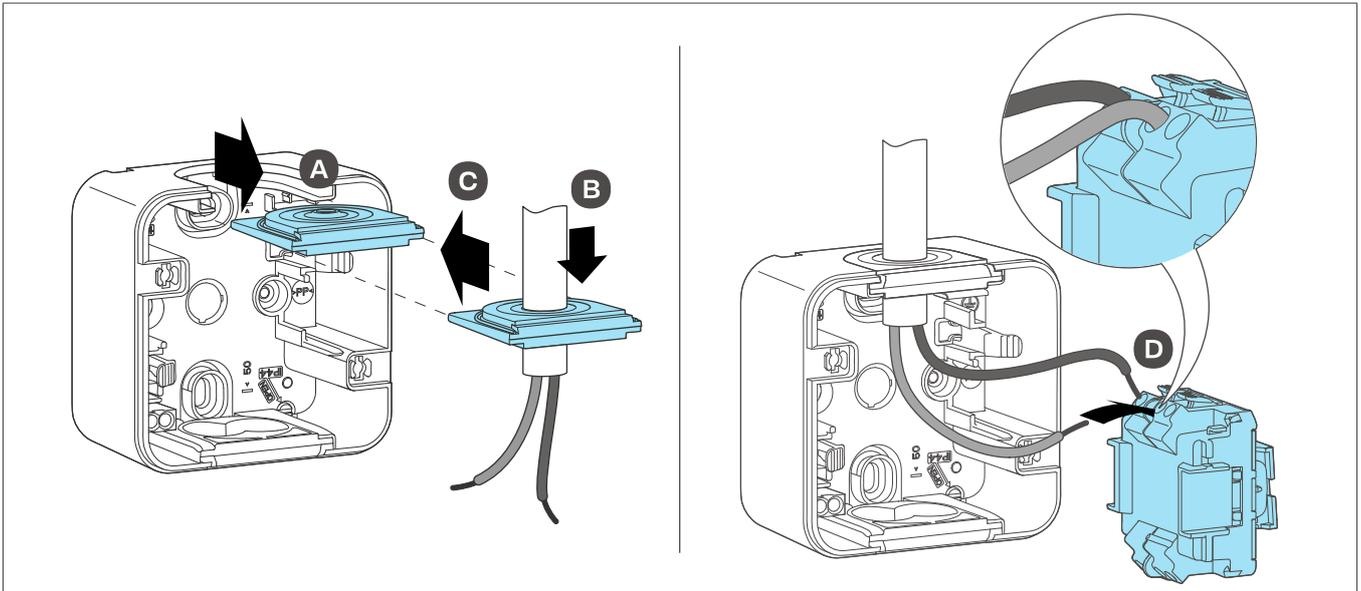

Fig. 9: Cable entry (left) / Wire insert (right)
- 1 Remove the cable entry (6) top/bottom from the housing bottom part depending on the laid lead (A) (Fig. 9, left).
- 2 Push the lead through the cable entry (B) and insert the cable entry into the housing bottom part again (C) (Fig. 9, left).
- 3 Wire the phase and load line with insert (4) (D) (Fig. 9, right).